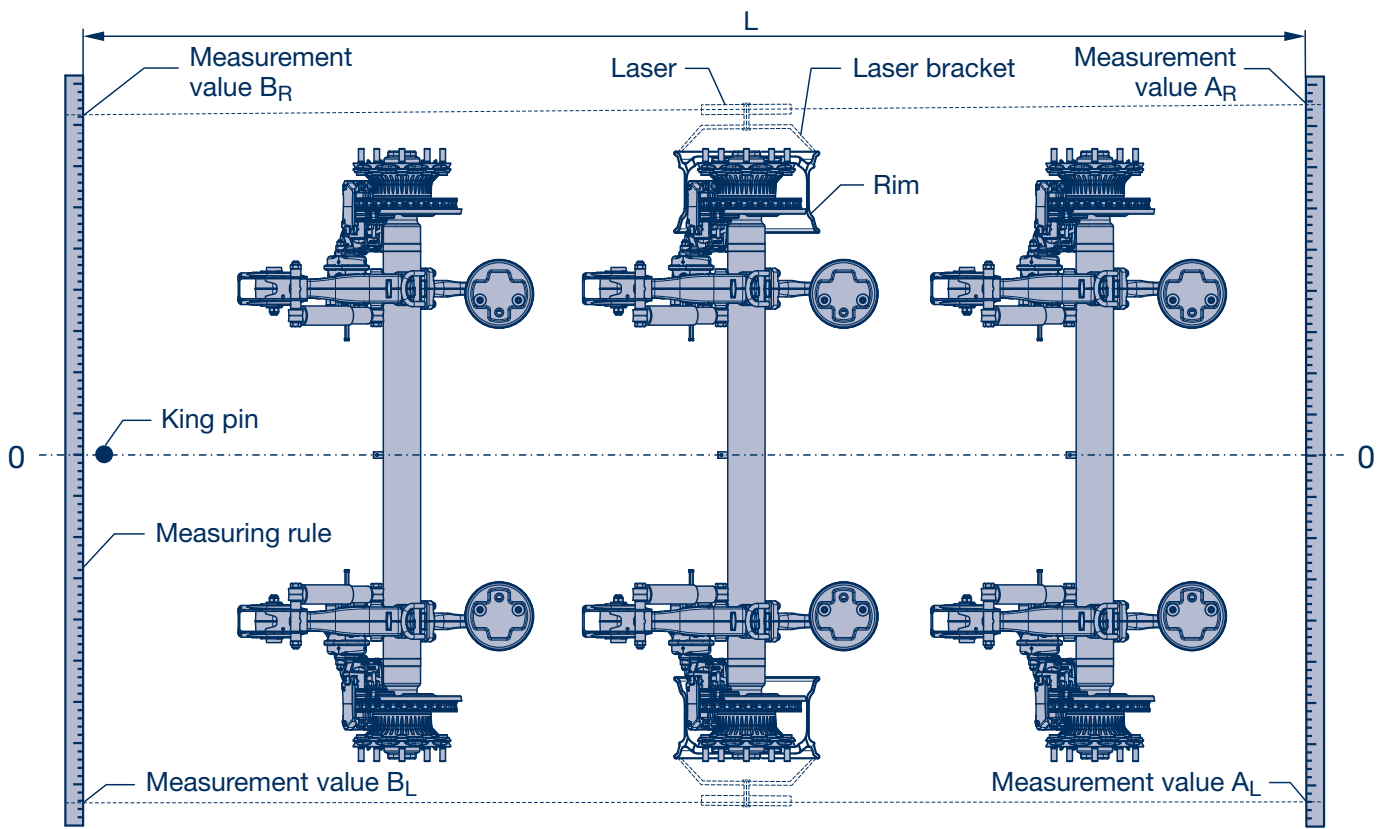

Figure 9
- [1] Set up the laser in accordance with the manufacturer's instructions (see Figure 9). Make sure the axle is positioned **horizontally** to prevent camber values corrupting the measuring results. An unladen vehicle is assumed.